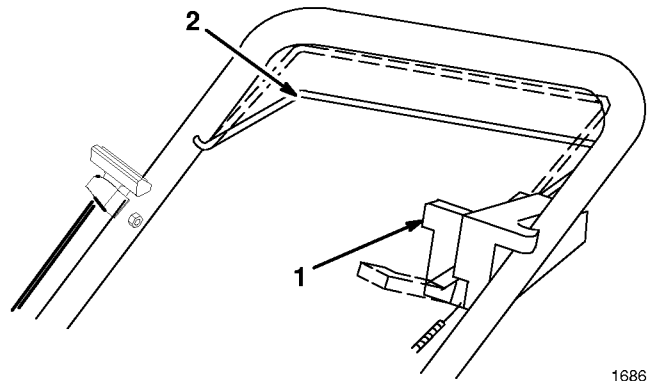

Figure 9
3. Lower control bar halfway and move traction control lever backward (toward operator) (Fig. 9).